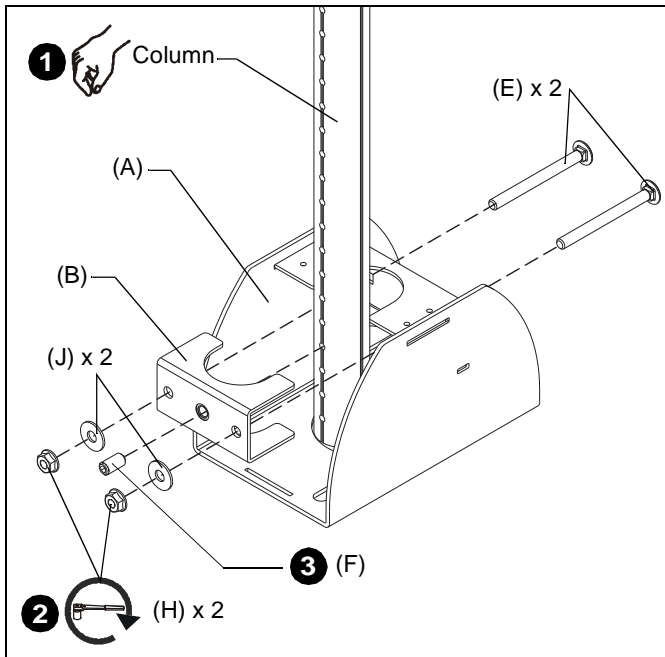

Figure 4
2. Attach clamp bracket (B) around column and to base (A) using two 5/16 x 3-1/2" carriage bolts (E), two 5/16" washers (J), and two 5/16" flanged hex nuts (H). (See Figure 4)
3. Fully tighten one 3/8 x 3/4" set screw (F) into column. (See Figure 4)